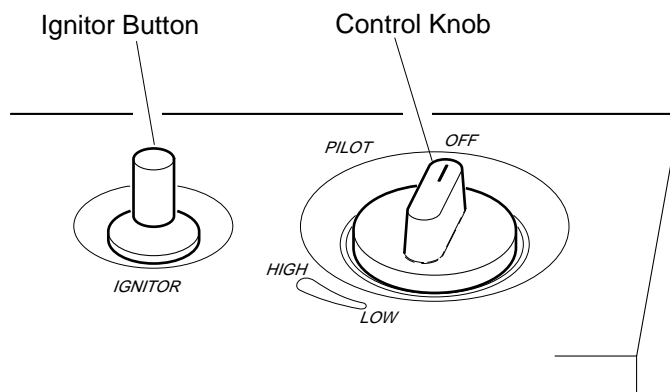

Figure 16 - Control Knob In The OFF Position
4. Wait five (5) minutes to clear out any gas. Then smell for gas, including near the floor. If you smell gas, STOP! Follow “B” in the safety information at the top of page 16. If you don’t smell gas, go to the next step.
5. Press in control knob and turn counterclockwise  to the PILOT position. Keep control knob pressed in for five (5) seconds (see Figure 16, page 16).